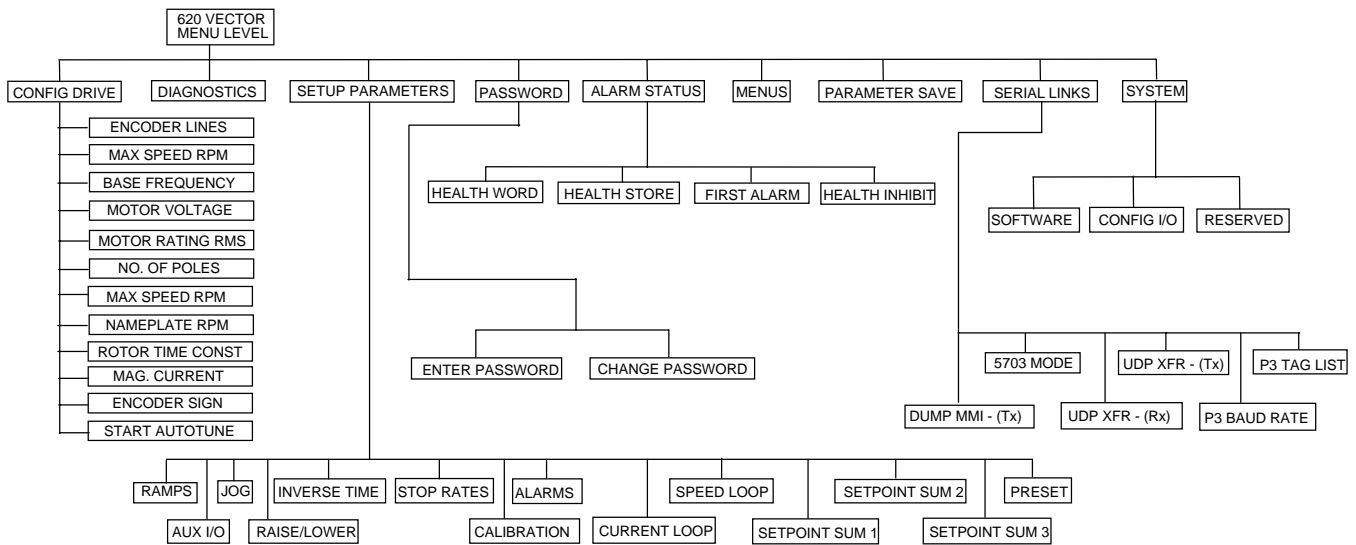

Figure 4.3 - Main Menu Options
The MMI comprises several hundred menu options (shown in Figure 4.3). The    and  buttons navigate through the menus.
The options available to the user from the main menu are given in Figure 4.3. These options are briefly described in the following paragraphs which include references for further details.
1. Press **(M)** **(M)**. The display will show 'MENU LEVEL / DIAGNOSTICS'. Pressing the **(Δ)** and **(∇)** buttons will enable you to move around the top level menu. Press **(Δ)** until the display shows **CONFIGURE DRIVE** (if you miss **CONFIGURE DRIVE** or any other menu item, either use the **(∇)** button to get back or keep pressing **(Δ)** until **CONFIGURE DRIVE** is displayed again). You will be navigating the Initial Setup menus shown at the extreme left of Fig 4.3.